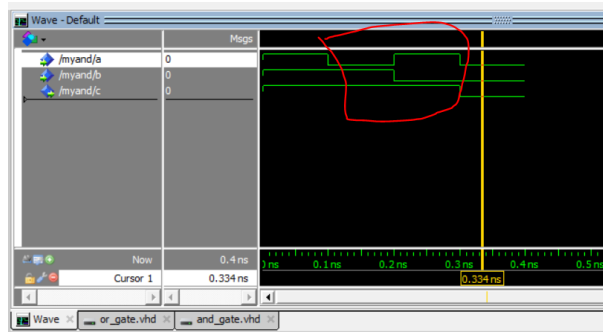

Figure 8: Wave Form
7. In the wave Fig.8, right click on input 'a' then choose force and write value 1 then ok.
8. In the wave Fig.8, right click on input 'b' then choose force and write value 1 then ok.
14. Watch the wave form Fig.8, and notice that the output 'c' have value 1 when a is 1 and b is 0, that means that we have an error in design.